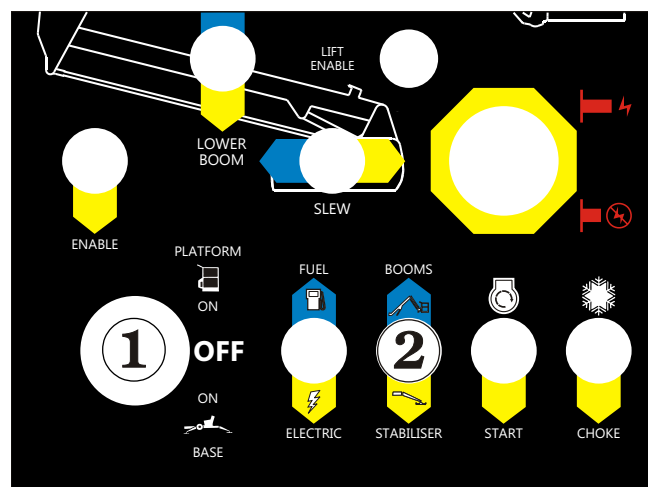

Figure 10.12
- Insert the key ① into the **Platform / Ground Selector Switch** at the ground control box and select platform (see Figure 10.12).